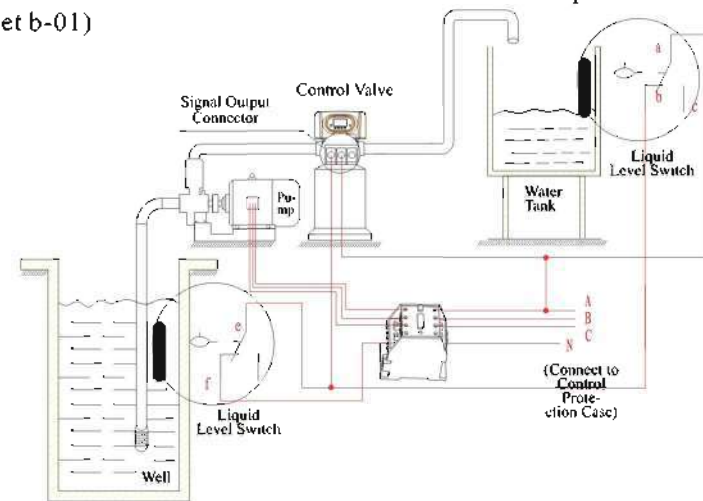

Figure 3-5 Wiring of Liquid level controller controlling Inlet Pump
4) Liquid Level Switch in Water Tank Controls 380V Three-phase Inlet Pump, Figure 3-5 (Set b-01)